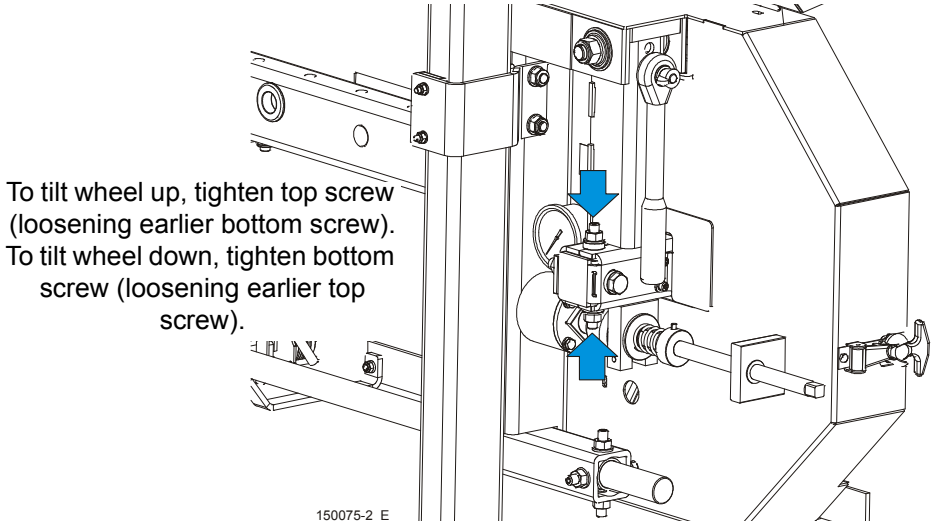

FIG. 3-5
- If the two measurements differ by more than 1.5 mm, adjust the vertical tilt of the idle-side blade wheel. ( $\pm 1,5$  mm). See Figure 3-5.
**See Figure 3-5.** To tilt the idle-side blade wheel up, loosen the bottom adjustment screw 1/2 turn. Loosen the nut on the top adjustment screw and tighten the top adjustment screw. Tighten the top and bottom nuts.